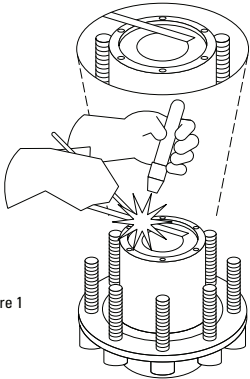

Figure 1
- 7.) To prevent damage to an aluminum hub, remove the bearing cup by welding a large bead around the bearing cup surface, letting the assembly cool, and then removing the cup (see Figure 1).